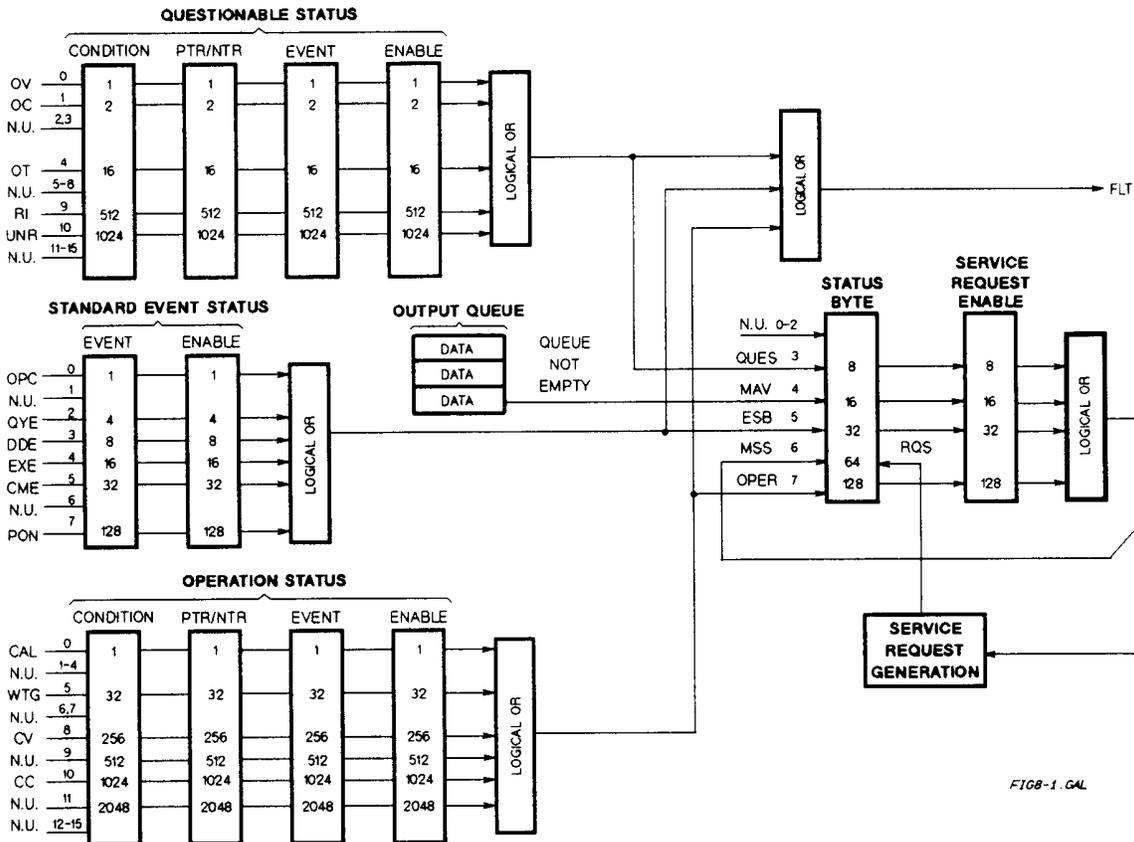

Figure 4-1. Power Supply Status Model
Figure 4-1 shows the status register structure of the power supply. The Standard Event, Status Byte, and Service Request Enable registers and the Output Queue perform standard GPIB functions as defined in the *IEEE 488.2 Standard Digital Interface for Programmable Instrumentation*. The Operation Status and Questionable Status registers implement status functions specific to the power supply. Table 4-2 and Figure 4-1 show the bit configuration of each status register.
The Questionable Status registers record signals that indicate abnormal operation of the power supply. As shown in Figure 4-1, the group consists of the same type of registers as the Status Operation group. The outputs of the Questionable Status group are logically-ORed into the QUES(tionable) summary bit (3) of the Status Byte register.
This example assumes you want a service request generated whenever the power supply switches to the CC (constant current) mode. From Figure 4-1, note that the required path is for a condition at bit 10 (CC) of the Operation Status register to set bit 6 (RQS) of the Status Byte register. The required register programming is shown in Table 4-5.